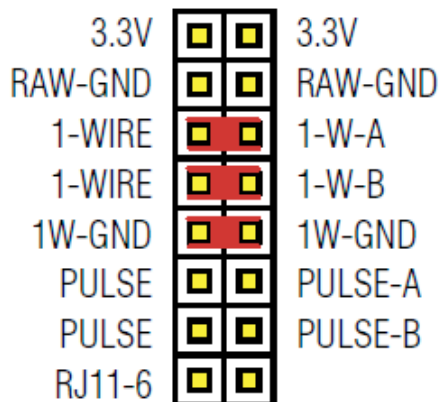

Figure 4. Jumper Settings for Parasitic Power
- a) Remove jumpers from the JB1 to leave only the middle three jumpers connected. See Figure 4.